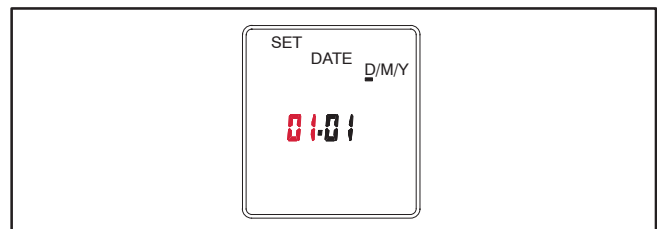

FIGURE 7. SETTING THE DAY AND MONTH
- 3.. Press the + or – buttons until the correct year is displayed. Press the **OK** button. The day and month will then be displayed with the day flashing and D/M/Y is displayed with the “D” underlined (see Figure 7).